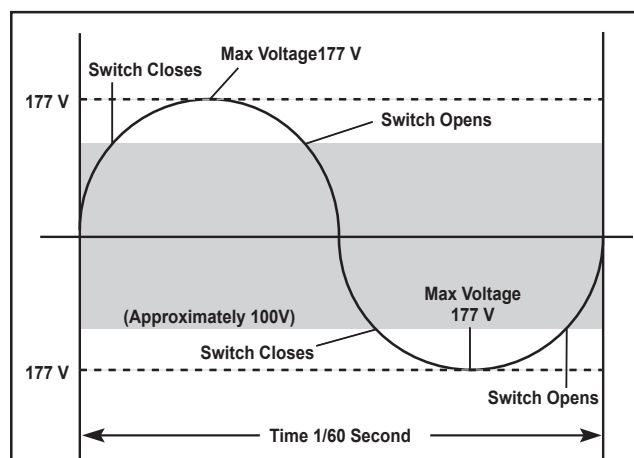

FIGURE 10. The electronic switch in the starter circuit closes every time voltage of 60 cycle AC power source rises above a certain level.
The electronic switch of the starter is activated by the rise and fall of the voltage levels that occur in the 60-cycle alternating current (AC) used to power the lighting fixture. As you can see from the 120-volt AC waveform shown in Figure 10, the voltage cycles from 0 to 177 volts, to 0 to 177 volts again, 60 times per second. The average voltage is 120 volts. As the voltage rises and falls in each half cycle, the electronic switch opens and closes, just as the breaker points in the automotive distributor open and close when the distributor camshaft is rotated.